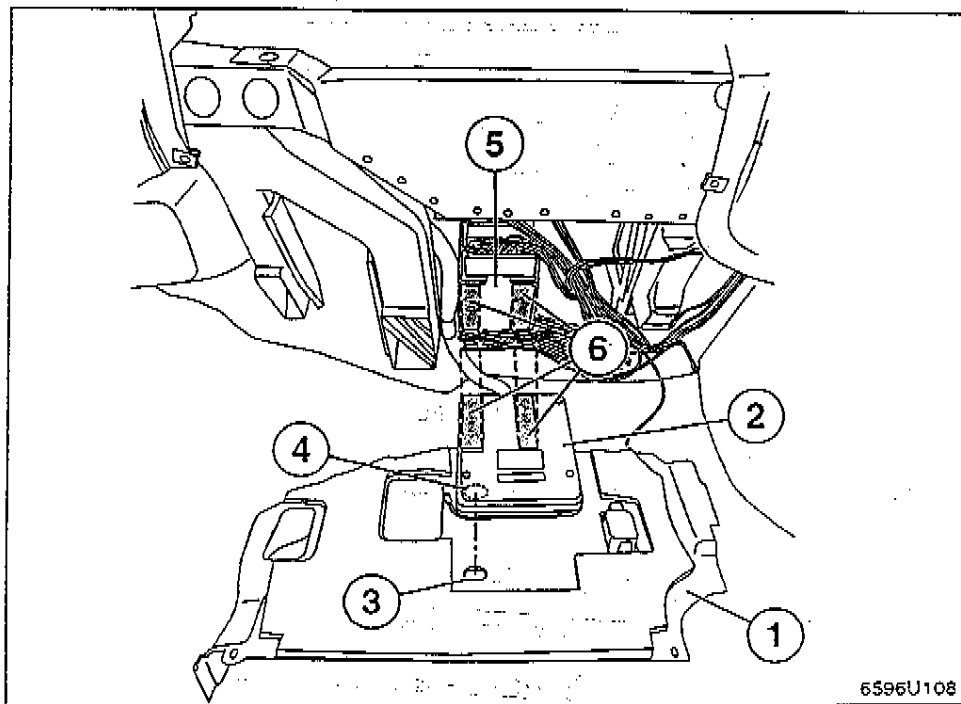

FIGURE 6
7. See Figure 6 . Remove protective paper from velcro strips (6) and attach alarm control module (2) to bottom surface of the electrical carrier (5) . Note: Properly positioned, the left side of the alarm control module should line up with the left side of the electrical carrier and the connector end of the alarm control module should not extend beyond the backside (side closest to front of vehicle) of the electrical carrier.